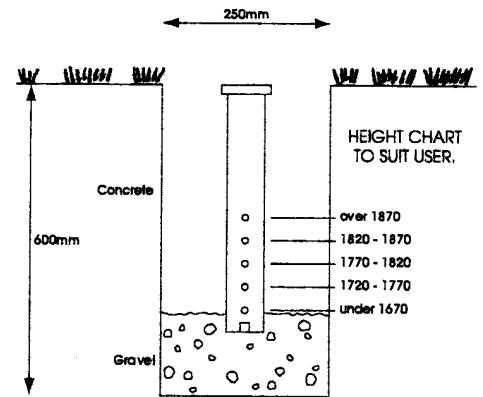

Fig.1
- Dig a hole 600mm deep and 250mm in diameter. Place gravel or stones in the base until the Ground Socket is level with ground surface. The gravel will allow proper drainage (Fig.1)